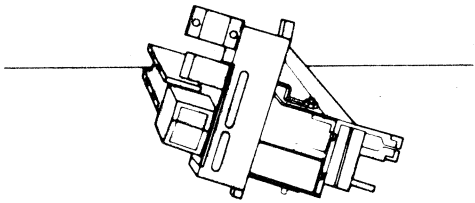

Figure 5
2. If you place the R/W FRU assembly on a work table or hard surface, position it with the tape cleaner side up, as shown in Figure 5. Do not allow the tape path area to touch the work surface.